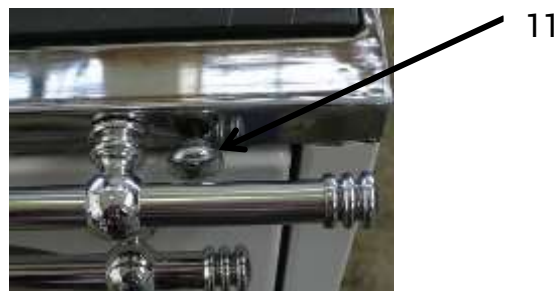

Figure 5
Moving of the warming flap is made by activating the button (Fig. 5, item 11) located above the oven door. It is used for shortening the paths of flue gases during firing.